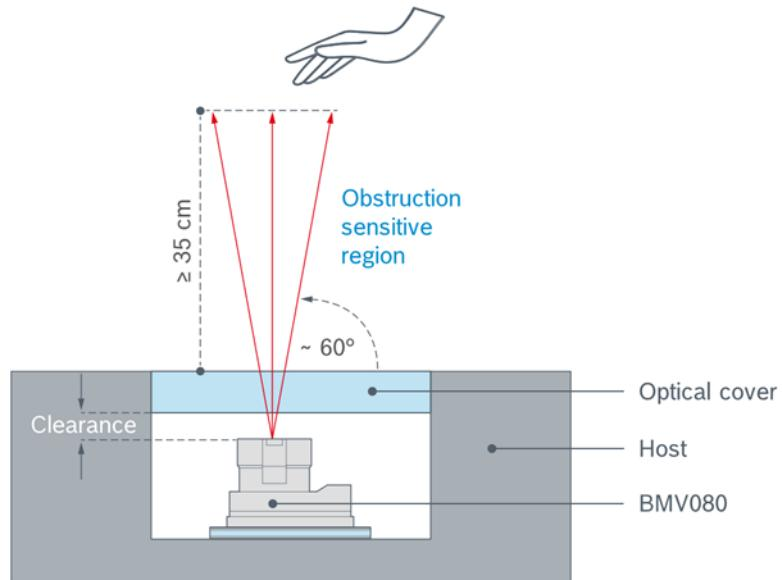

Figure 14: BMV080 integrated in a host system
- Objects in front of the sensor (obstruction): reflections caused by objects in the optical path can influence the sensor functionality. The BMV080 software detects these events as obstructions. While occasional obstruction (e.g., by waving hands) is filtered out in the BMV080 software and does not influence the sensor performance, static obstruction (i.e., a fixed object in the obstruction-sensitive region, see Figure 14) will influence the sensor functionality. When the BMV080 software detects a static obstruction, the PM_{2.5} calculation is not available, and an obstruction flag is returned. Therefore, static obstructions caused by the integration into the host shall be avoided.